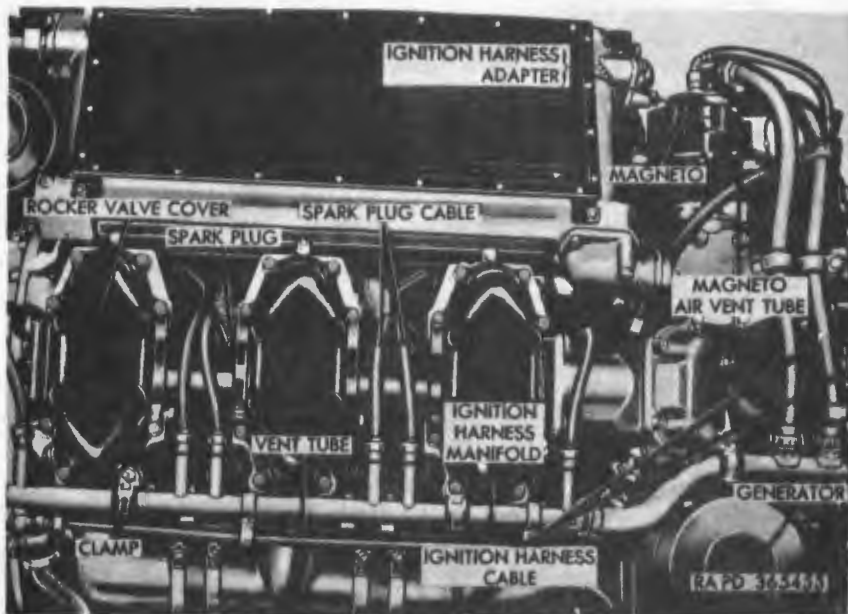

Figure 115. Ignition harness and ventilating system.
- (5) *Ignition harness assembly* (fig. 115). The ignition harness assembly is waterproof and consists of 2 metal shields or manifolds; 4 flexible rubber-covered shielded conduits; 1 rigid metal conduit; 12 rubber-covered shielded spark plug cables; 12 rubber-insulated high tension cables; and two harness adapters. The manifolds and conduits are assembled with couplings and house the 12 high tension ignition harness cables from the magnetos to the manifold outlets. The spark plug cables connect the high tension cables in the ignition harness manifold to the spark plugs. The manifold sections of the ignition harness assembly are mounted with cushioned clamps on the front and rear rocker arm covers on both banks of the engine. The connecting conduits which extend across the front of the engine are secured with brackets to the crankcase.